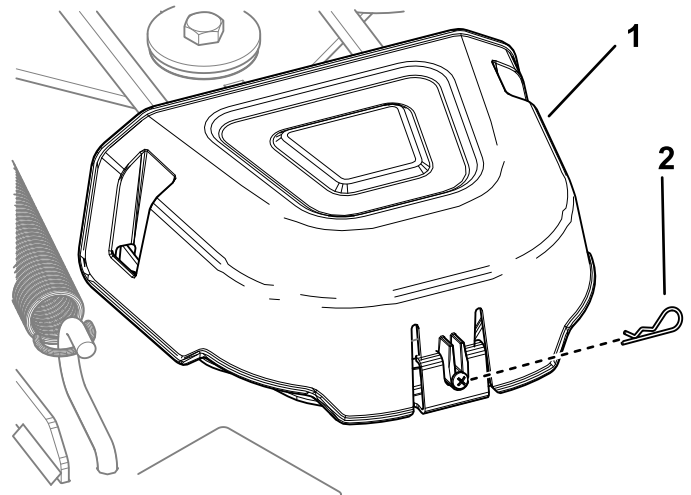

**Figure 50**
3. Locate the tracking-adjustment bolt near the motion-control lever on the particular side that needs adjusting (Figure 50).